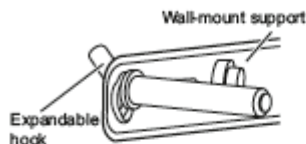

Fig.1
- Determine the installation position of the water heater. Based on the measurements indicated in Fig. 2, use impact drill to drill two holes of 12mm in diameter and 65mm in depth. Insert the expandable hooks into the holes and ensure that they are securely fixed. Lift the water heater and slip its wall-mount support onto the expandable hooks (as show in Fig.1). Check to make sure the machine is securely suspended. For accessories such as safety valve, please refer to the "Installation of Safety Valve" (for reference only). Make sure to seal the joints with Teflon tapes to prevent water leakage.